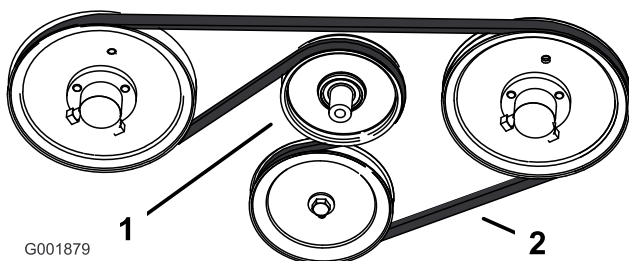

Figure 65
3. To replace the belt, pull the spring loaded idler down and remove the traction belt from the engine and hydro pump pulleys (Figure 65). Remove the belt between the pulleys.
4. Install the new belt around the engine and hydro pump pulleys (Figure 65).
5. Pull the spring loaded idler down and align it below the traction belt. Release the pressure on the spring loaded idler (Figure 65).